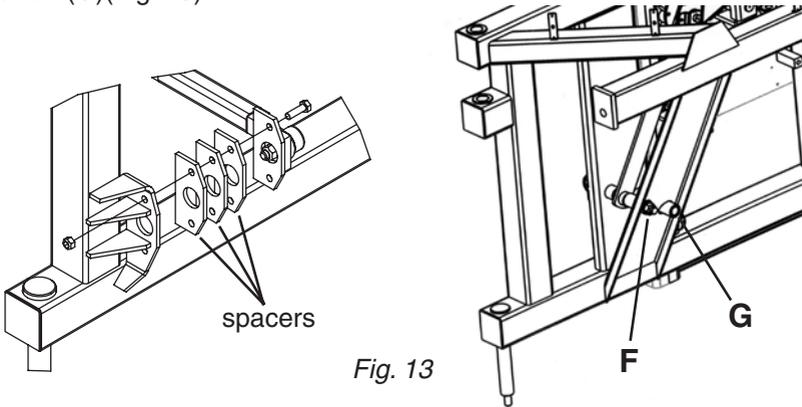

Fig. 13
Add 1-4 pcs. (#173388) of 8mm spacers as shown in (Fig. 13) at each rod until the desired dampening characteristics are reached.
For less aggressive "centering" (looser boom reaction) move the lower part of the trapeze arms from the outer position (F)(Fig. 13) to the inner position (G)(Fig. 13).